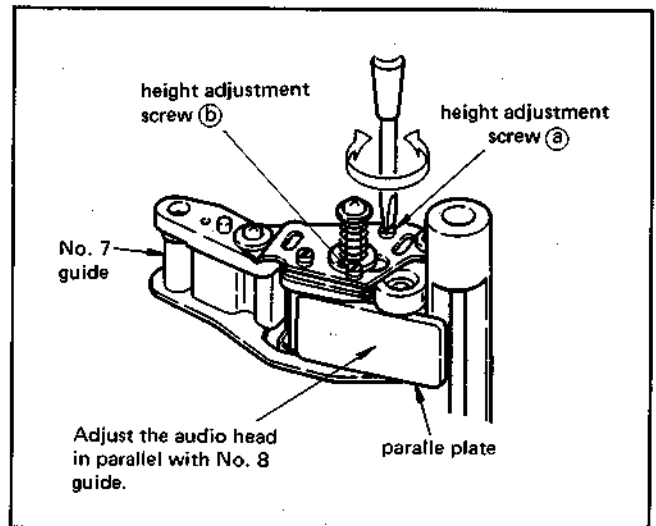
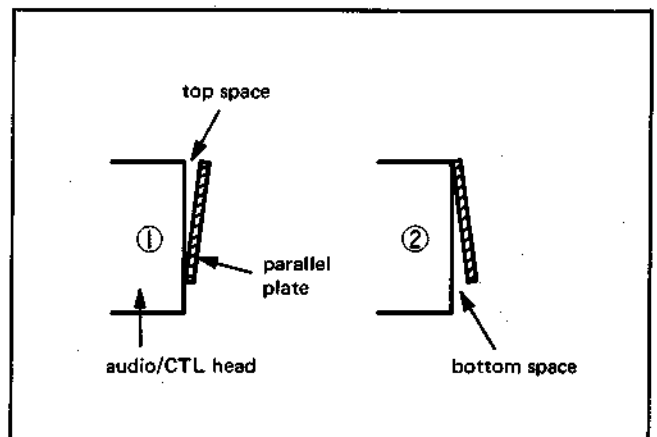

Fig. 3-28
Fig. 3-29
- 1) Place the parallel plate SL-0657 on No. 5 guide and audio/CTL head. (Fig. 3-28)
- If there is space at the top (Fig. 3-29 ①), adjust by turning the height adjustment screw ③ counterclockwise. (Fig. 3-28)
- If there is space at the bottom (Fig. 3-29 ②), adjust by turning the height adjustment screw ③ clockwise.